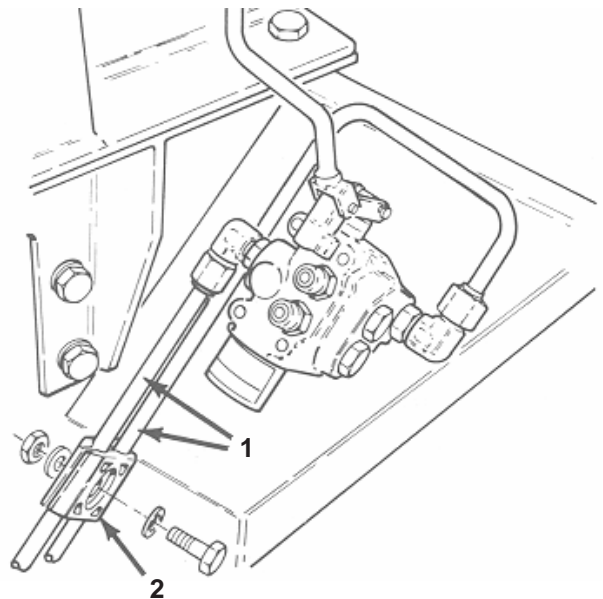

Figure 3
13. Secure tube assemblies together with clamp, 1/4-20 x 1-1/4" Ig. capscrew, (2) 1/4 flatwashers and 1/4-20 locknut. Position clamp near edge of fender (Fig. 3).